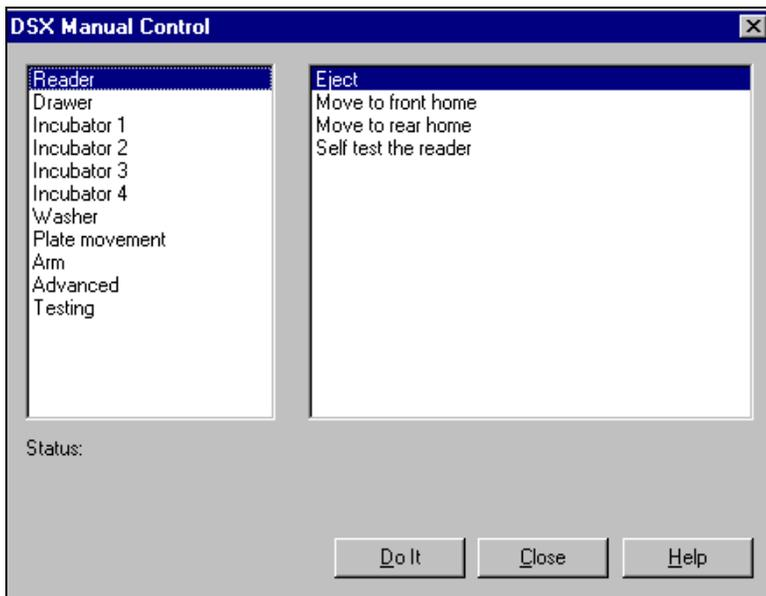

Figure 5-1 DSX Manual Control Dialog Box (Reader Selections)
When Manual Control is selected, the *DSX* Manual Control dialog box (Figure 5-1) will be presented. The left column indicates the devices that can be tested and the right column indicates the operation that can be tested for the selected device. To select a different device, move the highlight in the left column to the appropriate entry, to perform a different operation for the selected device, move the highlight in the right column to the desired operation.
- In many instances, the indicated action will be performed automatically. As an example, if ejection of the Reader is selected (Figure 5-1), the Status line in the dialog box will indicate:
The Reader test selections are listed in the right column of Figure 5-1. The self-test operation incorporates all of the individual operations.